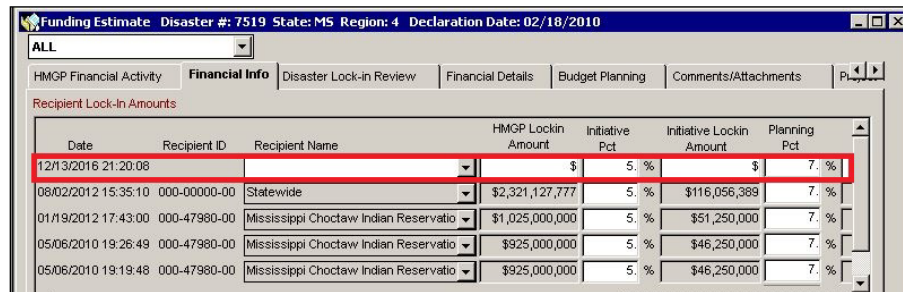

Figure 5-14: Financial Info Details - New Row
- a. Click the NEW button. A blank row is displayed (Figure 5-14) with the default Initiative and Planning Percentages showing. The system auto-fills the Date and Time of the new record entry.